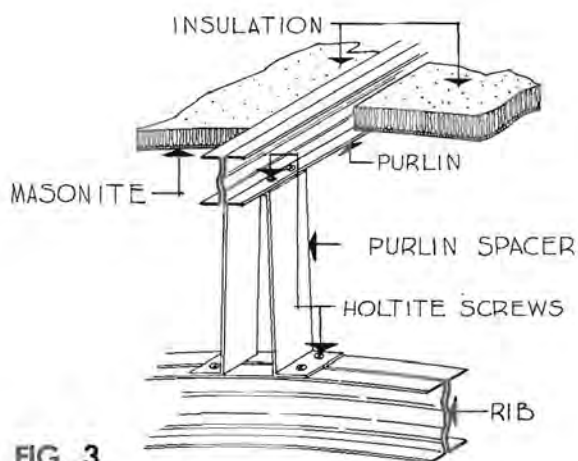

FIG. 3
1. Erect the frame as outlined on pages 4, 5, 8, 9, 10 and 11 with this exception: the purlins are raised from the ribs by purlin spacers. There are four, 9" high x 2" wide spacers per rib, one for each purlin, and these are first screwed to the ribs at the location the purlins normally occupy. The purlins then are placed on top of the spacers and screwed to them. (See Figs. 3 and 4.)